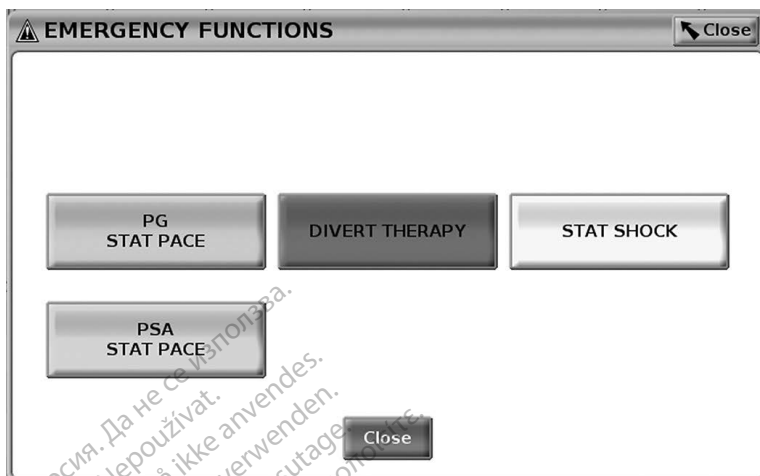
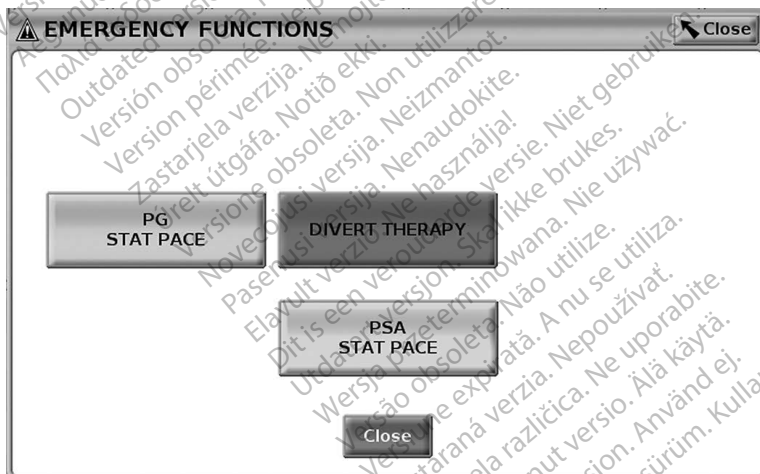
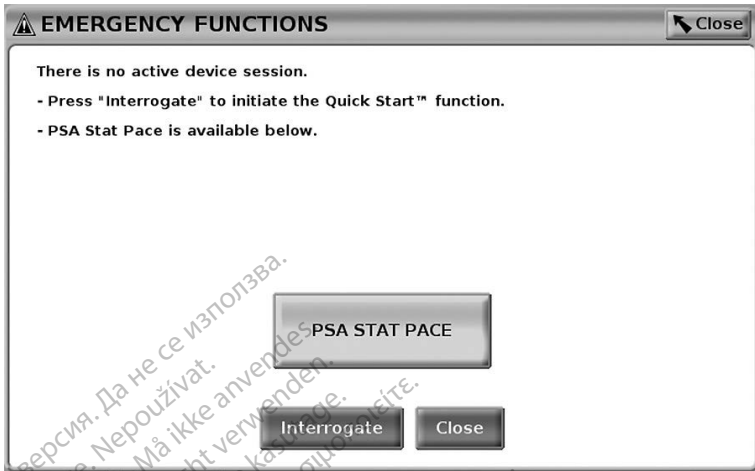

Figure 22. Red STAT button pop-up in a High Voltage transvenous PG session with the PSA application running
Figure 23. Red STAT button pop-up in a Low Voltage transvenous PG session with the PSA application running
Figure 24. Red PSA STAT PACE button pop-up outside any PG session with the PSA application running
The red STAT button, , is at the top right of the Model 3300 Programmer to provide a rescue shock or pacing. The STAT function is available in the same location at all times to initiate a PSA STAT PACE or deliver a rescue pace or shock. Pressing the STAT button with the PSA Application running displays the Emergency Function screen as shown in Figure 22 and Figure 23 on page 29 and Figure 24 on page 30. Check the pulse generator labeling for specific details of the STAT parameters.
- When in telemetry communication with a high voltage (ICD or CRT-D) PG, a pop-up displays allowing the user to initiate a PG STAT PACE, STAT SHOCK, or DIVERT THERAPY command. If a PSA session is in progress, a PSA STAT PACE option also displays as shown in Figure 22 on page 29.
- When not in communication with a PG, an Interrogate button displays with text prompting the user to perform Quick Start to attempt to identify the device (see Figure 24 on page 30). Once in a session with an implanted transvenous device, press the red STAT button again to display available options.
In Figure 22, the top row buttons (PG STAT PACE, DIVERT THERAPY, and STAT SHOCK) display only during a High Voltage transvenous PG session. PSA STAT PACE displays when the PSA feature is active.
In Figure 23, the top row button (PG STAT PACE) displays only during a Low Voltage transvenous PG session. PSA STAT PACE displays when the PSA feature is active.
If in a PSA session only (no PG interrogated), then the dialog in Figure 24 displays along with the PSA STAT PACE button.